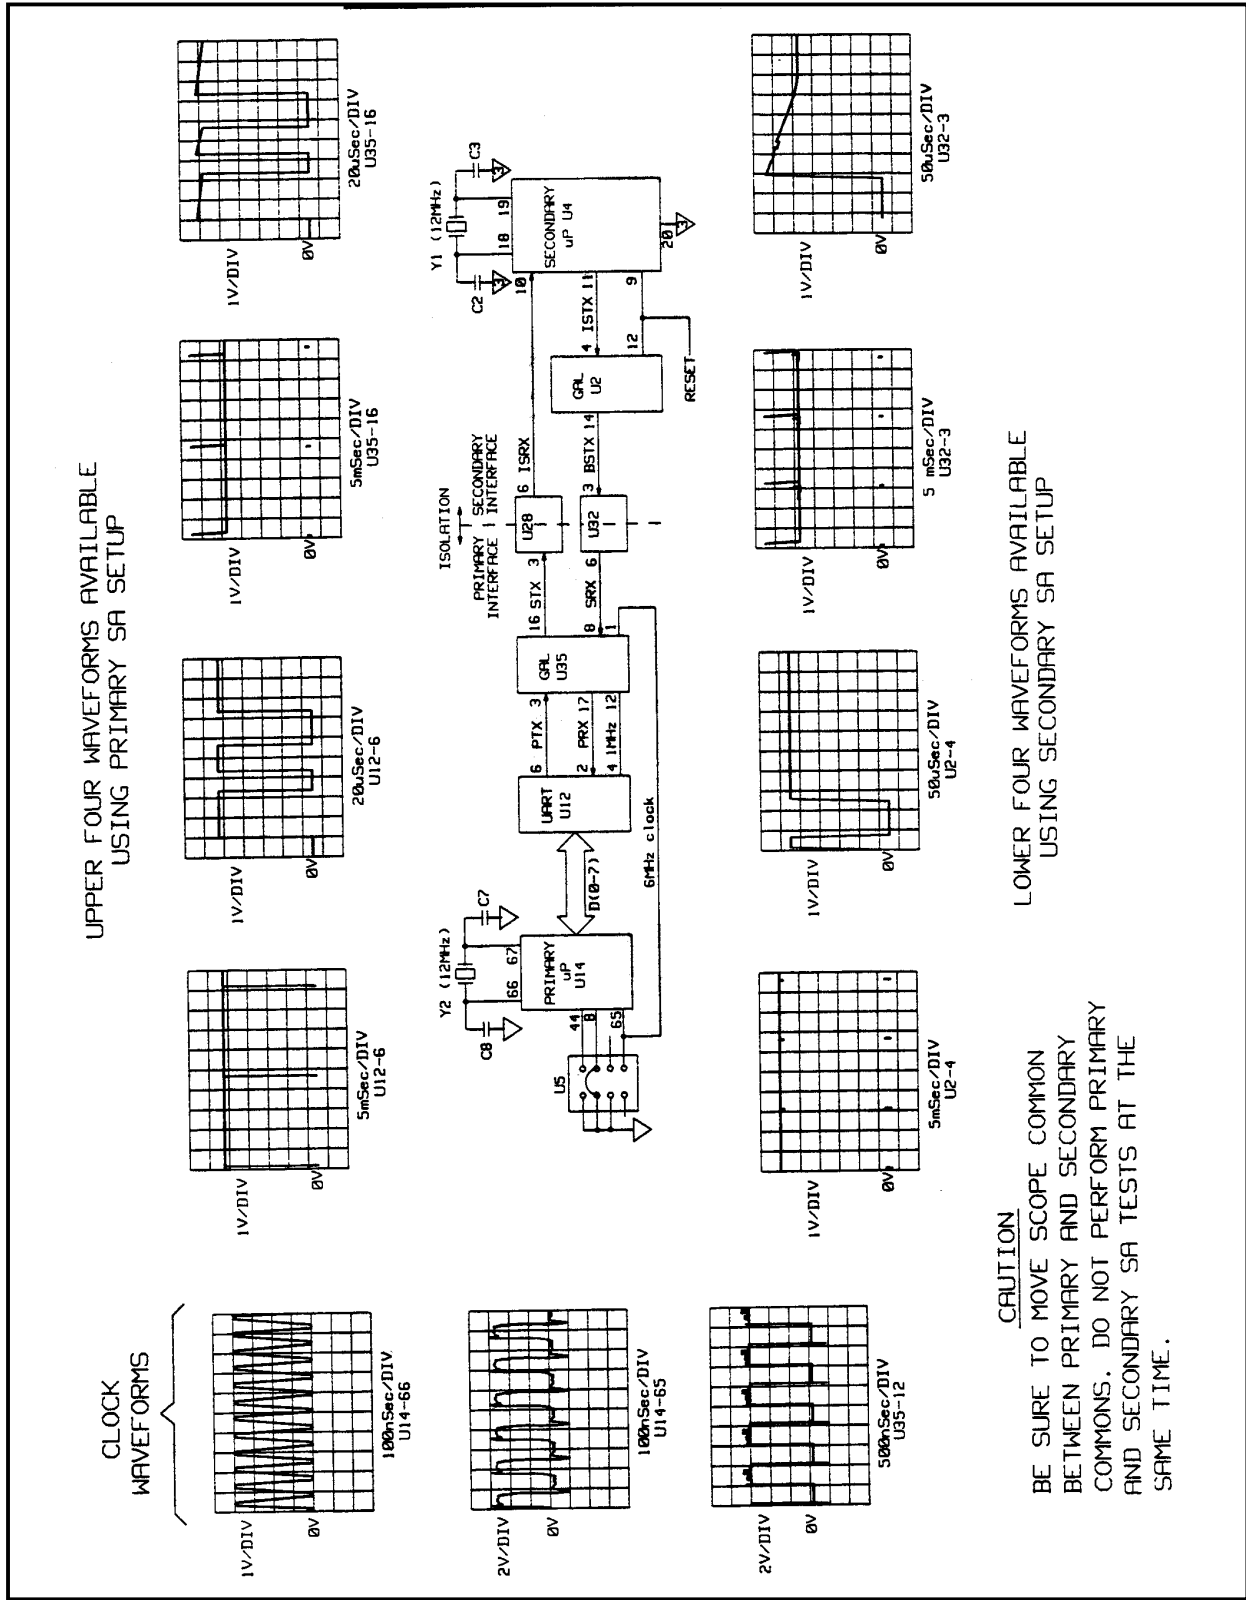

Figure 3-3. Clock and Primary SA Waveforms
Primary interface troubleshooting checks for the presence of bias voltages, clock signals (see Figure 3-3), and activity on the data lines. Primary signature analysis may be used to further troubleshoot these circuits, but since the address and data lines go to so many IC's, it may not be cost-effective to narrow an incorrect signature to a specific chip. GPIB board replacement may be the most cost-effective solution.
**Clock Signals** (see clock waveforms in Figure 3-3)
When the unit is in SA mode, check for the waveforms shown in Figure 3-3. Refer to Table 3-4 for the primary SA signatures. Return the J5 jumper to its normal position when the primary signature analysis is complete.